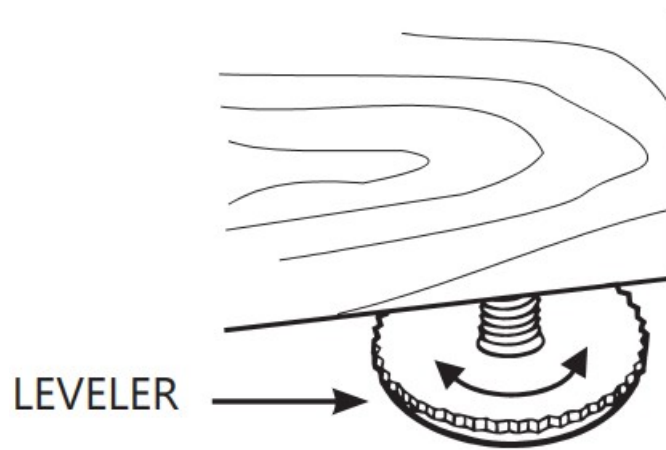

FIGURE 9
Position the clock into its final location. Once in place, your clock cabinet must be leveled, as the clock may not operate if it is not level. There are four (4) levelers under the cabinet on each corner that can be screwed in (up) or out (down) to make adjustments. Place a level alongside the clock cabinet from front to back and side to side, adjusting the levelers until level. It may be necessary to periodically check your cabinet after initial set-up, (especially if the clock is on carpet), as it might settle after original leveling. (See figure 9). Ensure clock is positioned square and firm on the floor so that it will not fall over. Illuminated cases: Some clocks have lights illuminating the inside of the clock case.